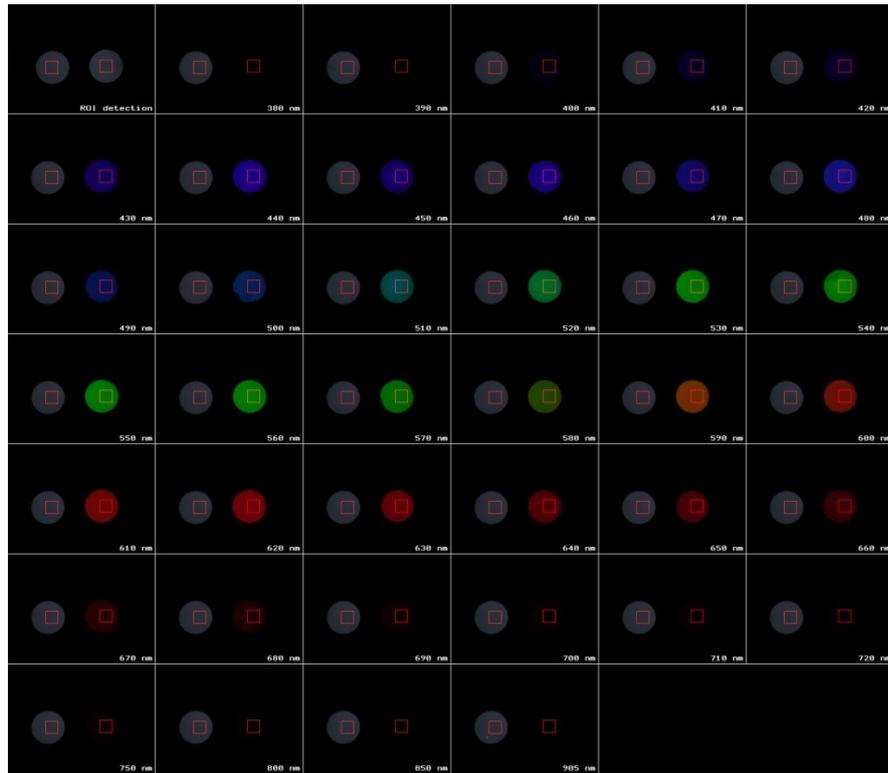

Figure 4.5.1: A tile image is created from all images of a series for camSPECS Multi-shot. Displaced filter frames can be identified easily.
6. Add image(s) to processing list. Supported image types are: TIFF, PGM, BMP, PNG, PPM and raw files (The term "raw file" means files that are created by a digital camera in "RAW-Mode" and are readable by the software *dcraw*. This does not include raw files with unsupported image file formats – these should be converted to 16-bit Tiff images first.). Depending on the selected calibration file (see item 1) one or more images can be chosen that contain the filter arrangement of camSPECS. The '+', '-' and 'C' buttons are options to add images, remove one selected image or clear the whole list. After the measurement the spectral curve of the first image in the list is displayed. By clicking on the other images in the list the corresponding results are displayed.
8. Starts the processing procedure. The filters in the images are detected automatically or manually. After the detection process a confirm dialog is shown where the ROIs for each filter can be manually repositioned if necessary (Fig. 4.5.2). By double-clicking on the background, the processing starts. The resulting spectral curves are displayed and saved to a plain text (\*specs.txt or \*QE.txt) and an XML file in the same directory as the original image directory. If multiple images are selected, then an additional \*\_SS.txt file is created and saved in the installation camSPECS/lib folder which is the default location when selecting the Spectral Sensitivity Database in the Spectral sensitivity (iQ-LED) module. For the camSPECS version (Multi-shot) a tile image is saved to the same directory as the origin of the image's directory (Fig. 4.5.1), assembled from all images. Check this image for correct positions of the ROIs or all filters.